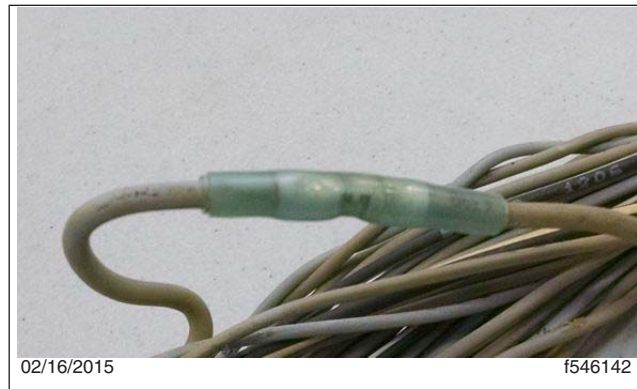

Fig. 7, Wire Repaired with Shrink Tubing
- 10.6 Crimp the Phillips STA-DRY® connector on the repaired wires as required using tool DKIOCHA17003-2 or similar. Use a heat gun to apply the solder and heat shrink the Phillips STA-DRY® connectors. See Fig. 7.